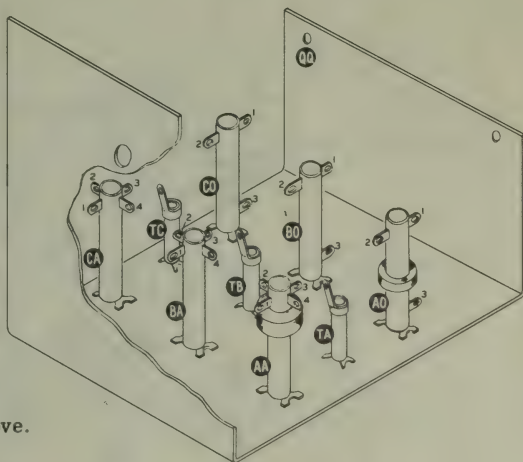

Figure 8
- (✓) Mount the three trimmer capacitors in the three small holes between the two rows of coils. See Figure 8. These trimmer positions are lettered TA, TB and TC, corresponding to positions of adjacent coils.